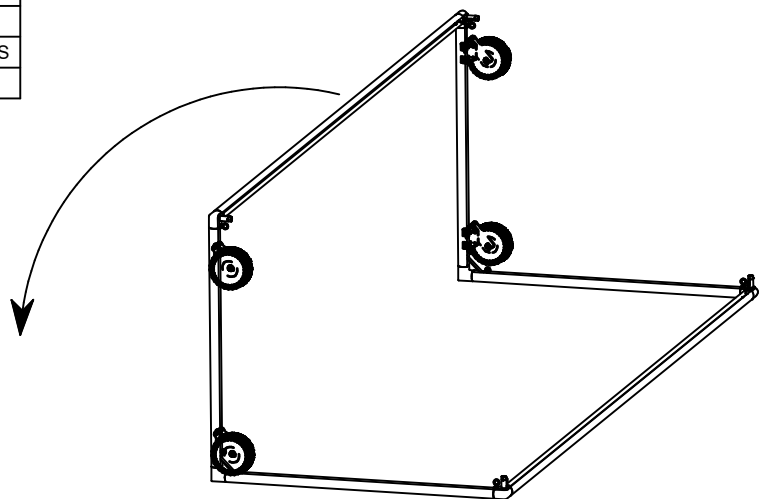

FIGURE C-4
4. With assistance, tip the frame assembly into the typical upright position as shown in Figure C-4.